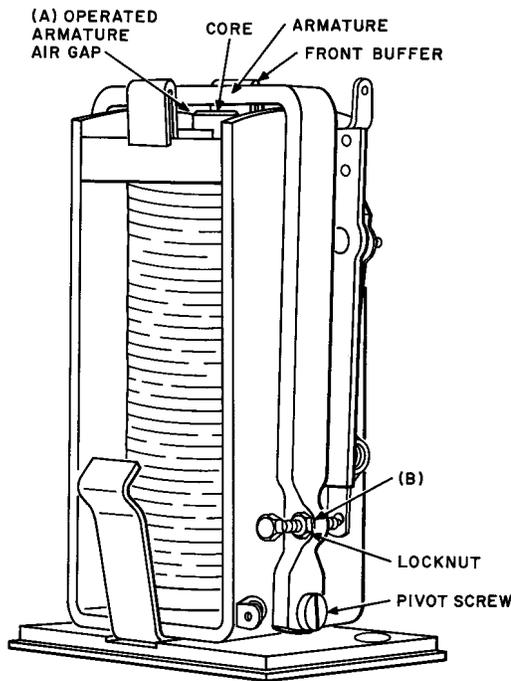

Fig. 5 — 85F-Type Relay — Showing Operated Air Gap and Locknut on Contact Screw
**2.10 Operated Armature Air Gap — Fig. 5(A) :**
**2.13 Tightness of Locknut** — 85F-Type Relay: The locknut on the contact screw shall be sufficiently tight to hold the screw in the adjusted position. Gauge by feel. See Fig. 5(B).